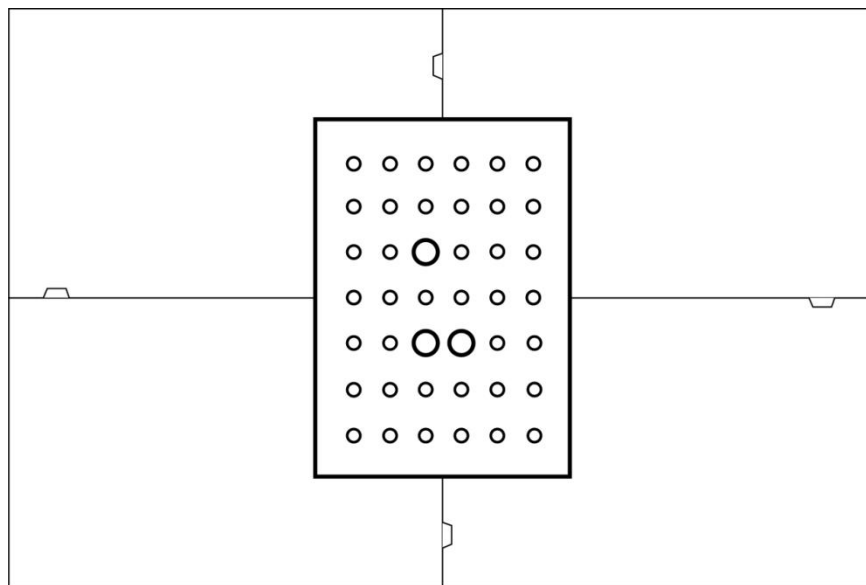

Figure 6-1 Master Plate and Accessories Placement of 3DeVOK MT
1. Take out the expansion accessories from the case, assemble it, and place it around the master plate, as shown in Figure 6-1.
- The master plate must be positioned according to the direction shown in Figure 6-1 and the software UI guidance. Incorrect orientation will cause calibration lag after Step 6.